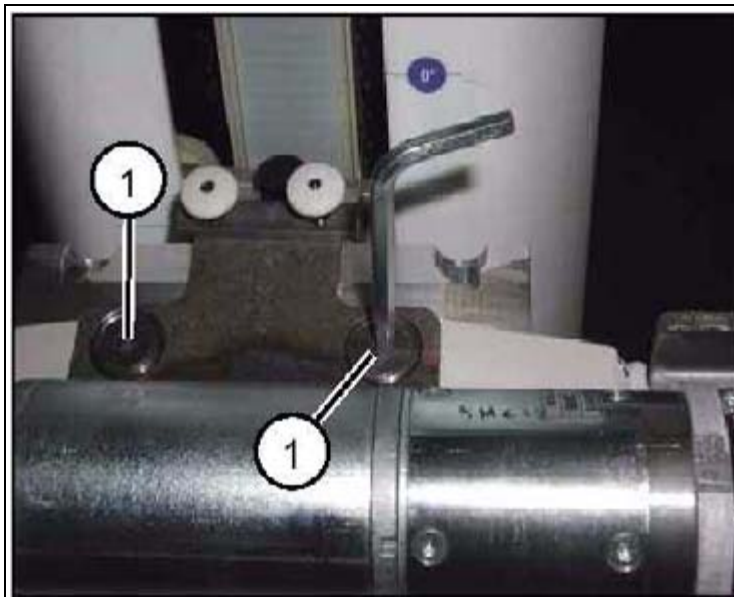

Fig. 28: Orbital motor 2
3. Loosen the 2 fastening screws of the mounting plate (incl. motor) (1/Fig. 28 / p. 71).